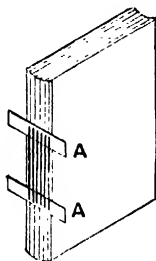
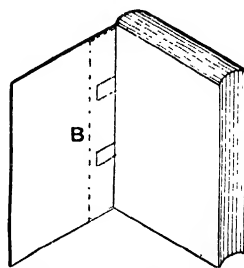

Fig. 106.—Book Sheets being Sewn to Tapes.
Fig. 107.—Bound Book showing Canvas Strips Glued Over Tapes.
**Binding Books without Tools.**—For binding books without tools all that need be provided is a little melted glue, some paste, a needle and stout thread, some white and coloured papers, and a few other trifling items. Arrange the sheets to be bound in order, beat them even at the back and head, and subject them to a heavy pressure between two flat surfaces by piling weights on them. Now take two pieces of tape  $\frac{1}{2}$  in. wide, and each 2 in. longer than the width of the back of the book. Stiffen the tape by drawing it through paste, and then let it dry before use. Fold the pieces of stiff tape, and place the sheets within them in such a position that the two tapes A (Fig. 106) will divide the back into three equal lengths. While the sheets are pressed down firmly with the left hand, with a lead pencil draw a line down each side of the tapes, and two other lines, each one dividing that part of the back outside the tapes into equal portions. These lines mark the place for the
entrance of the needle. The sheets are to be sewn on the tapes as in Fig. 106. When the book is sewn, the threads fastening each sheet are seen outside the tapes. The back must now receive a coating of glue, not too thin, after which it may be left to dry. Then, the glue being hard, the book may be cut on the edges with a straightedge and a sharp knife. The back must next be rounded by tapping with a hammer, which may be helped by a gentle pulling at the tapes. For the covers, use the thinnest millboard. Cut two pieces of this to project about  $\frac{1}{8}$  in. over the head, foot, and fore-edge of the book, and glue them in position on the projecting tapes, which will adhere to their inner sides. Over the tapes glue strips of coarse canvas B (Fig. 107), each strip being 1 in. wide by 6 in. long; then glue on the open back. When this glue is dry the volume may be covered with paper, cloth, leather, or vellum. Vellum must be lined first with clean white paper firmly pasted on it, and cloth covers must be fastened with glue; instead of gluing the tapes to the boards, cut a cloth cover large enough to allow for overlapping and for the width of the back, glue the covers on the cloth parallel with each other, and turn in the cloth round the edges. When this is dry, the book may be placed in the cloth cover,